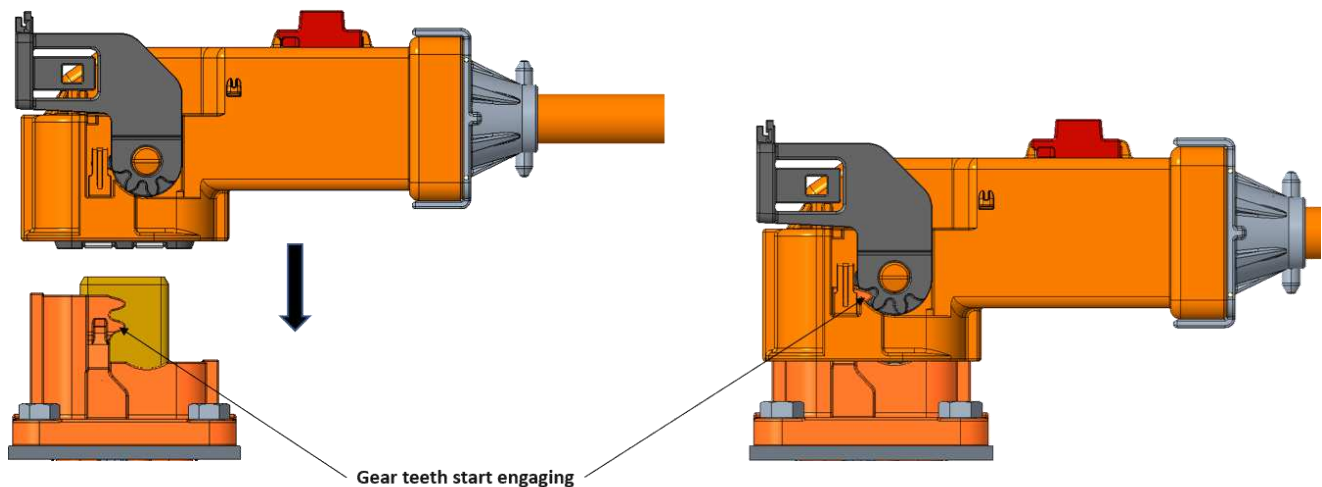

Figure 14: Plug and Header Pre-Lock
3. Holding the Plug connector body, push the connector halves together until the Header gear teeth completely engage with the Lever gear teeth as shown in Figure 14. Lever may start to rotate slightly at this point.